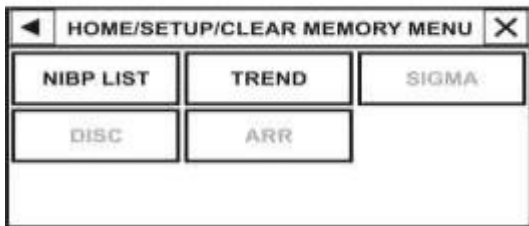

Figure 3-9 SETUP/CLEAR MEMORY MENU
- **CLEAR MEMORY:** You can clear the stored parameters in the system such as TREND and NIBP LIST data. Press this item to call up the following menu (figure 3-9).